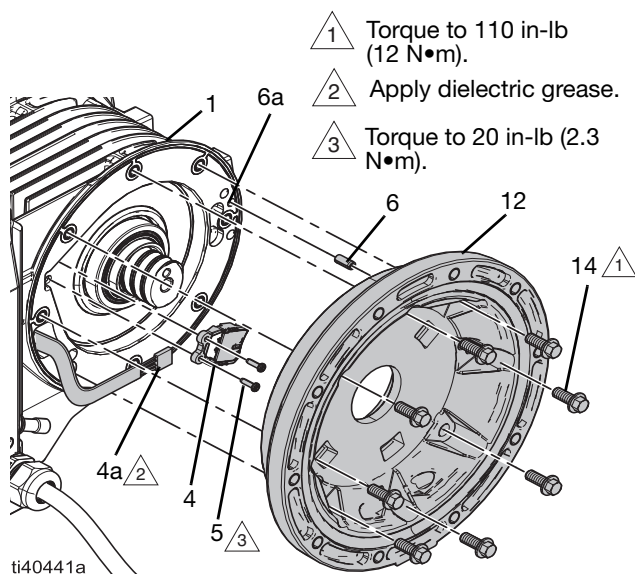

FIG. 17: Motor Sensor
2. Carefully install the sensor-side stator cap (12):
- a. Install the seal (11) in the stator cap (12).
- b. Align the pin (6) in the stator cap (12) with the pin hole (6a) on the stator housing (1) and gently insert the stator cap (12). Ensure the stator cap is properly set in place. See FIG. 17.
See FIG. 17 and FIG. 19.